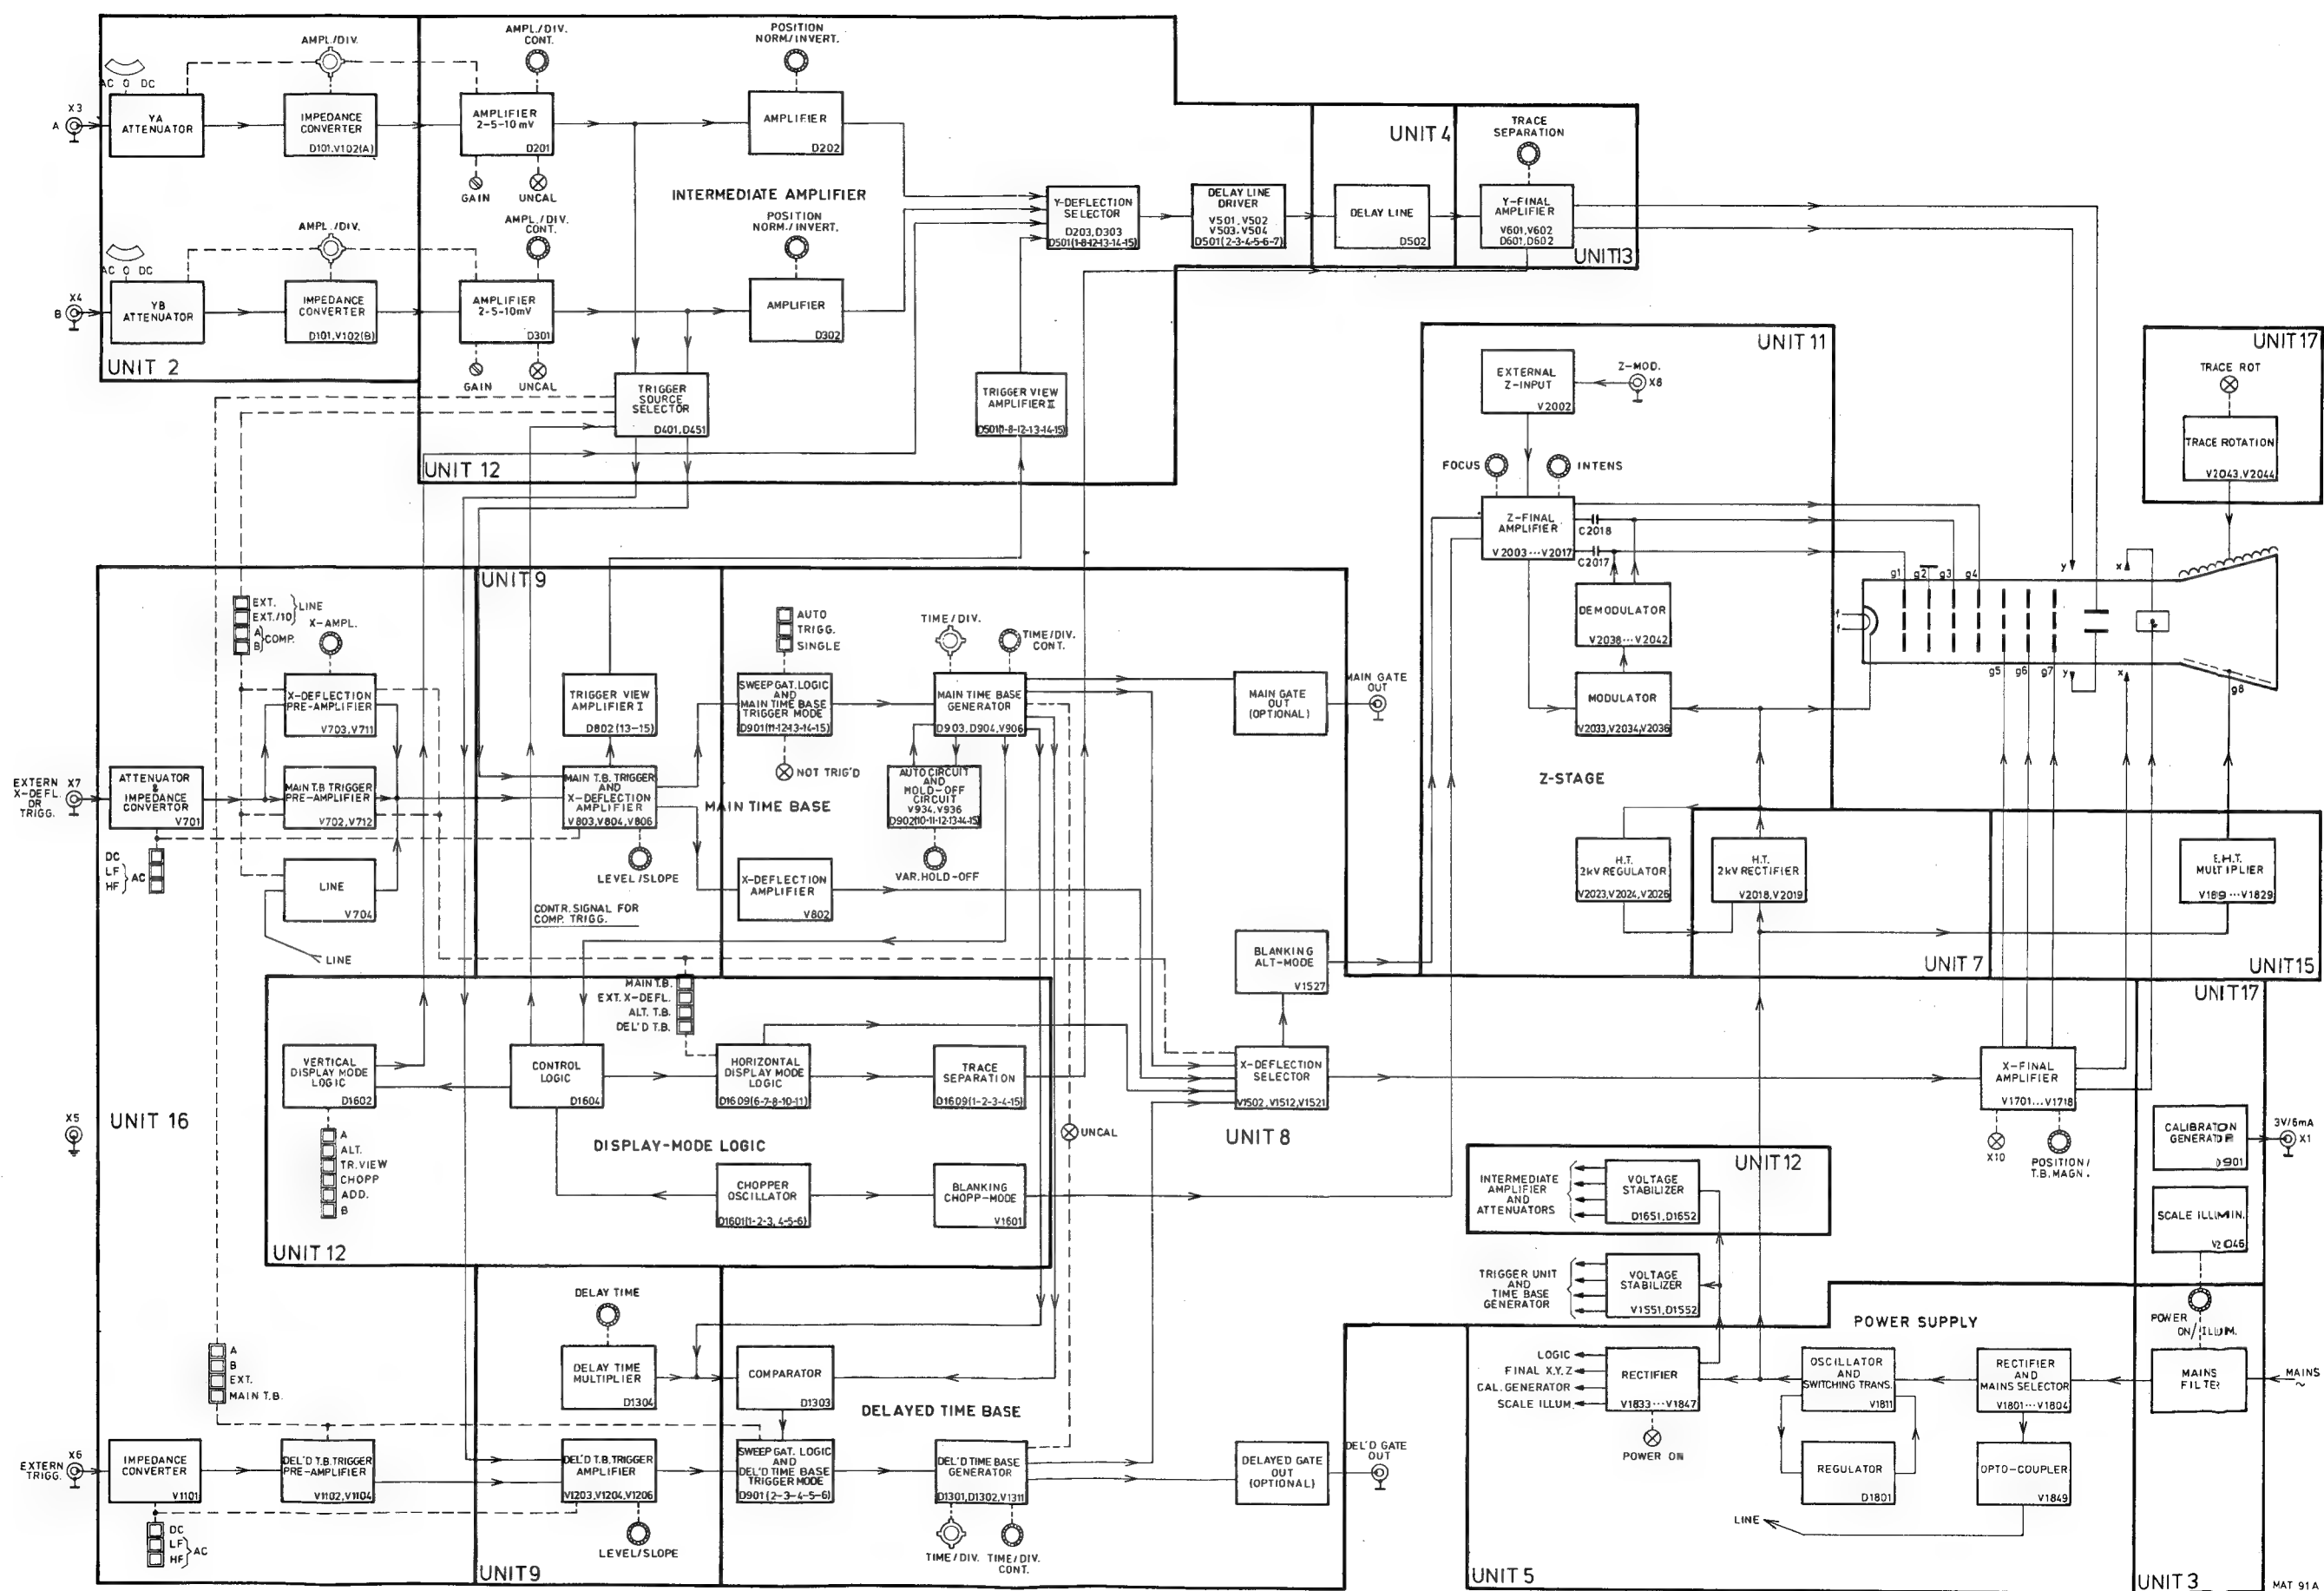

Fig. 3.1. Block diagram
3.1. DESCRIPTION OF THE BLOCK DIAGRAM (FIG.3.1. PAGE 85)